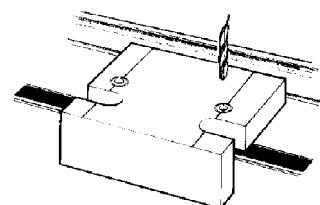

Fig. 7e
10.10.5 Using a 3.5mm bit drill the mid guide securing hole. Repeat for each mid guide - Fig. 7e.